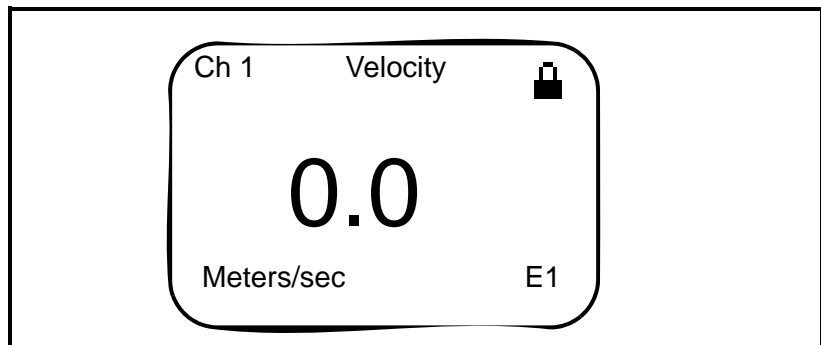

Figure 2-3: ISX878 Screen with Locked Program
5. Press [ESC] to return to the User Program, or continue pressing [ESC] to return to the display screen. If you have chosen to fully lock the ISX878, the screen appears similar to Figure 2-3 below, with a solid lock in the upper right corner. (For a meter with only the user program locked, the lock shows a keyhole in the center.)